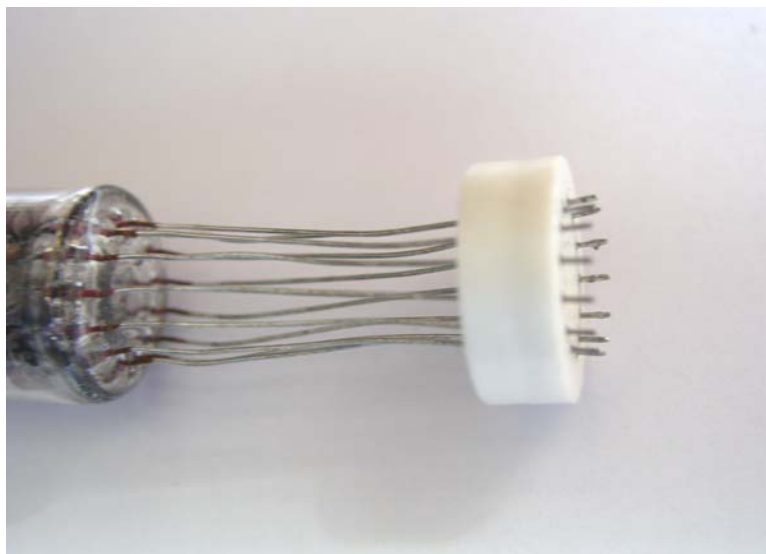

Fig. 3. Plastic holder
Move the plastic holder of the tube leaving approx 1-2mm of wire below the holder (see fig. 3) Be careful not to move it away.
To enter the settings menu push and hold SW1 for 3 or more seconds when the tube's lifetime counter state is present. When the settings mode is entered, on the most left tubes settings number is shown, which corresponds with the actual parameter (later this number will be enclosed in parenthesis). To set the next parameter push SW1 shortly. To return to the previous parameter push SW1 for 3 or more seconds. When the last parameter (20) is entered next short push to the SW1 will return the clock into the time state. *See fig.3.*
3.6.1 Hour format (1)